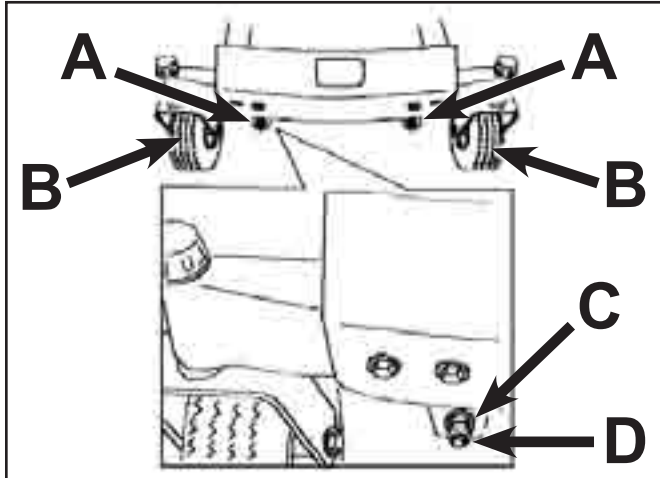

Fig A6 005 fig. 45 G000546
11. To adjust the front-to-rear blade slope, remove the locknuts and then rotate the adjustment nuts in the front of the mower (Fig. A6 005).